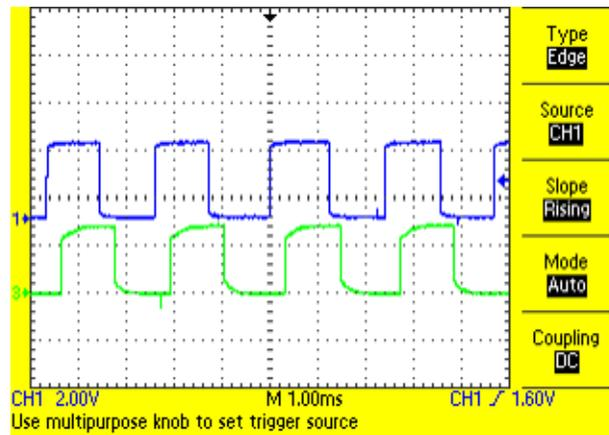

Figure 4. Encoder Phase Offset
- (f) The phase offset may be checked on an oscilloscope, and the output must be similar to Figure 4.